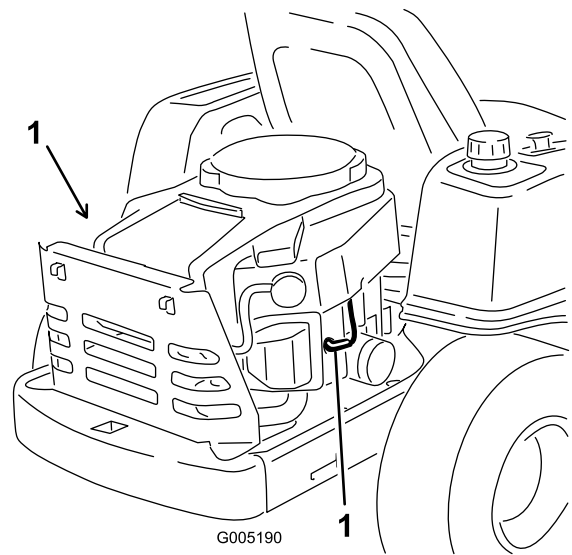

Figure 31
Pull the wire off of the spark plug(s) (Figure 31).
3. Push the wire onto the spark plug (Figure 31).